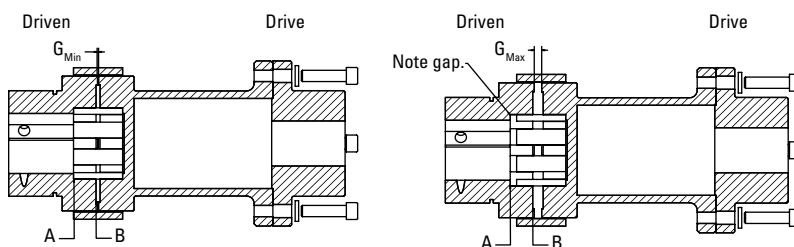

Fig. 8. Proper shaft-to-hub engagement
1. The QUICK FLEX single-ended spacer coupling should be oriented with the flanged hub on the drive shaft and the coupling hub with insert on the driven shaft (fig. 8).
4. Install the coupling hub. It should be mounted so the end of the shaft is flush with surface "A" as shown in fig. 8. It is acceptable for the shaft to extend past "A" as long as it is not past the teeth shown as "B."